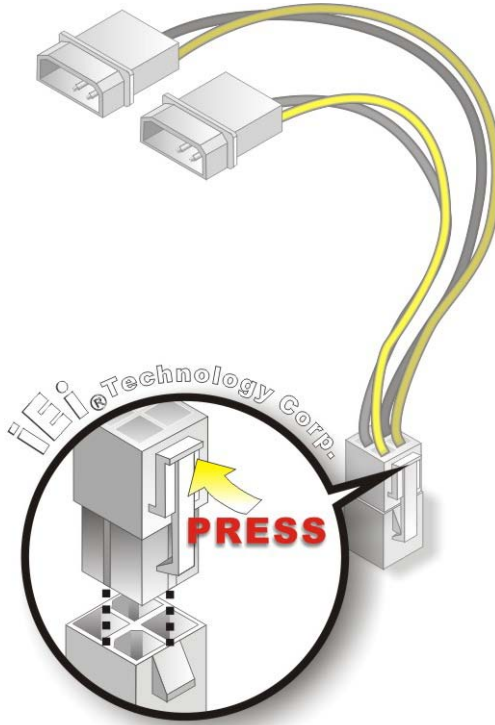

Figure 4-14: Power Cable to Motherboard Connection
Step 3: Connect Power Cable to Power Supply. Connect one of the 4-pin (1x4) Molex type power cable connectors to an AT/ATX power supply. See Figure 4-14.